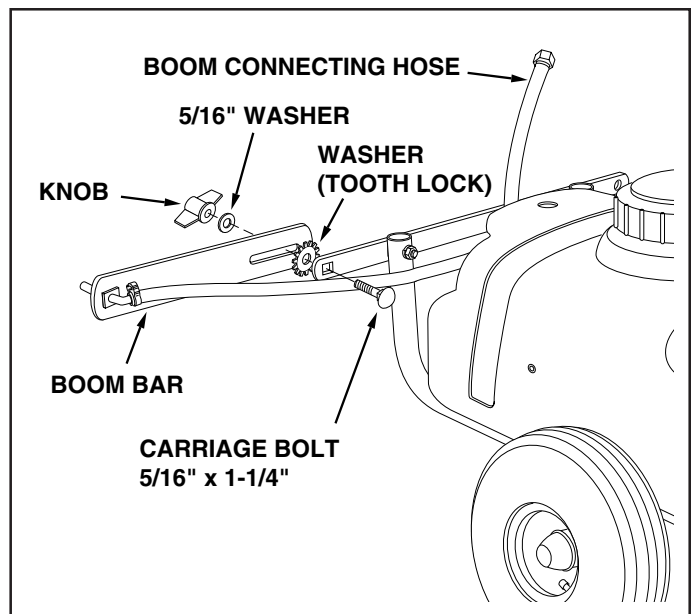

FIGURE 8
12. Assemble the boom bars to the boom mount bracket using two 5/16" x 1-1/4" carriage bolts, tooth lock washers (between the bar and bracket), 5/16" flat washers and knobs. The boom connecting hose should extend upward. See figure 8.